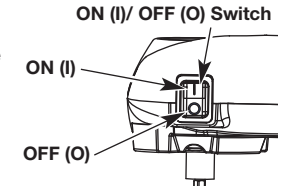

Fig. 2
2. With the electric starter flush with the engine press the ON (I) button for no more than 4 seconds or unit starts. (Fig. 2)